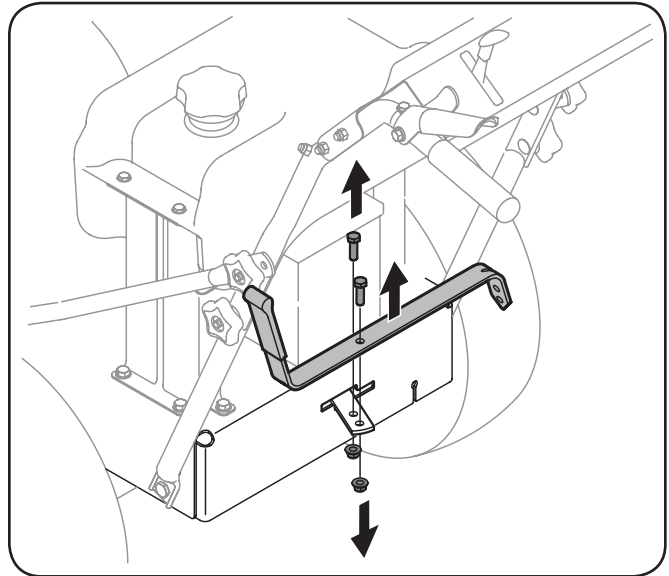

Figure 3-5
1. Remove the screw and the lock nut that secures the shift lever to the shift lever plate. See Fig. 3-5.
2. Remove the remaining screw and nut from the lower shift lever plate. See Fig. 3-5.